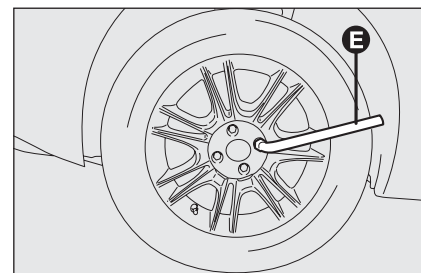

fig. 11
- ☐ Using the wrench provided **E**-fig. 11 loosen the fastening bolts by about one turn; if the car is fitted with alloy rims, shake the car to facilitate removing the rim from the wheel hub;